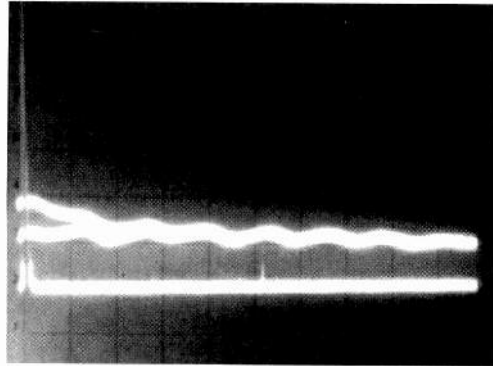

Fig. 4b. As Fig. 4a, but a 51 $\Omega$  load resistor added to the source.
**Figure 4b** shows the effect of connecting a  $51\Omega$  resistor in parallel with the noise output; the variations in level have been largely damped out, especially up to 300 or 400MHz. The level has apparently fallen by 4 or 5dB, but is so close to the analyser noise that the latter is contributing to the indicated level. The true fall is probably nearer 6dB, which is what one would expect if the diode acted as a perfect constant noise-current generator.